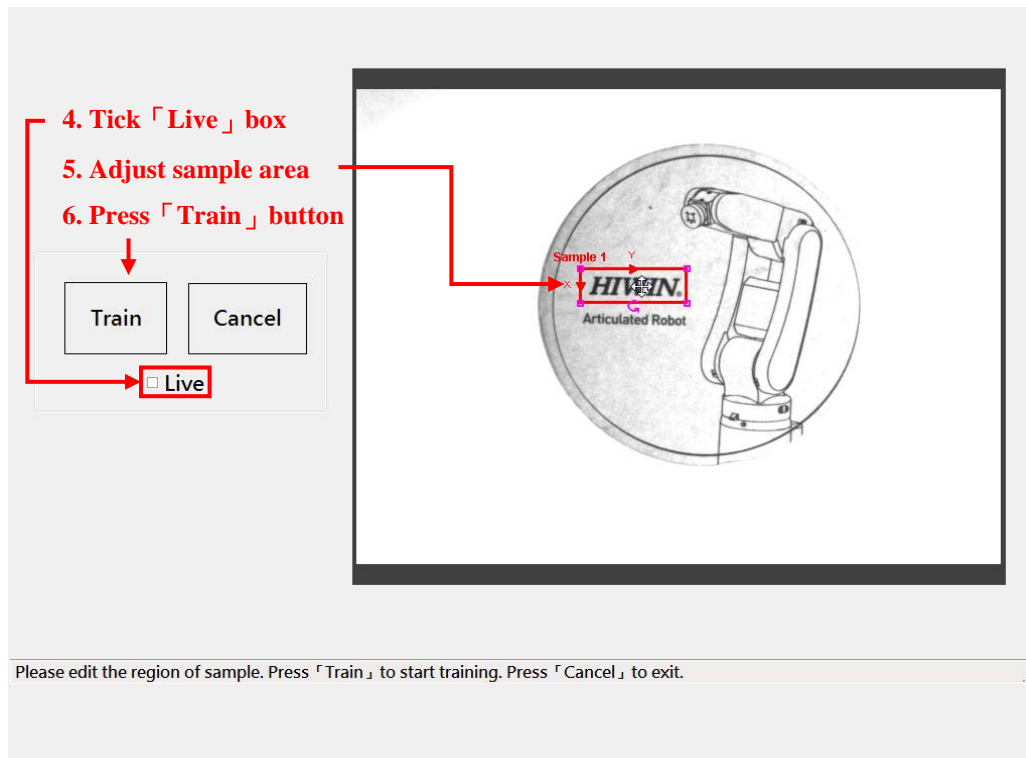

Figure 7-2 Adjust sample area
4. As shown in Figure 7-2, if you want to re-shoot the object, you can tick the "Live" box to start continuous shooting.